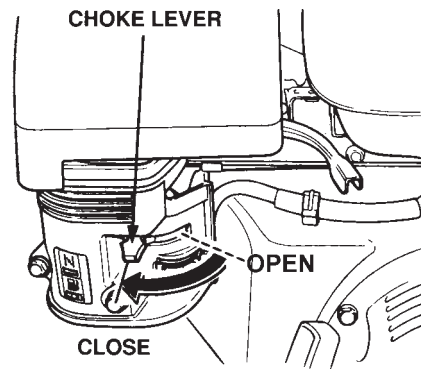

Figure 7. Choke Lever
2. To start a cold engine, move the choke lever (Figure 7) to the **CLOSED** position.